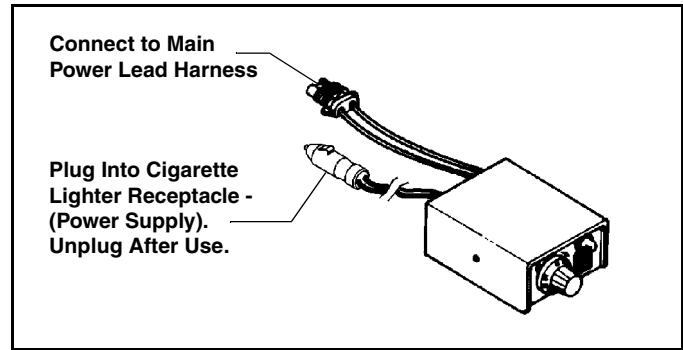

Figure 4-8
- 18b. For the in-cab-power-supplied Variable Speed Control, first plug in the main power lead harness to the control and then plug in the cigarette lighter lead into a power supply (cigarette lighter receptacle) in the vehicle. When the spreader control is not in use, unplug the cigarette lighter lead from the power supply. (See Figure 4-8)